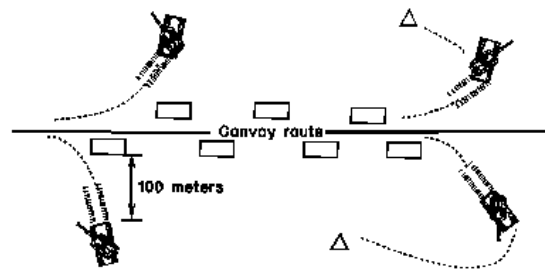

Figure 5-11A. Convoy assumes herringbone formation.
- o If possible, escort vehicles are positioned up to 100 meters beyond the convoy vehicles, which are just clear of the route (see Figure 5-11A). Escort vehicles remain at REDCON-1 but establish local security based on the factors of METT-T.